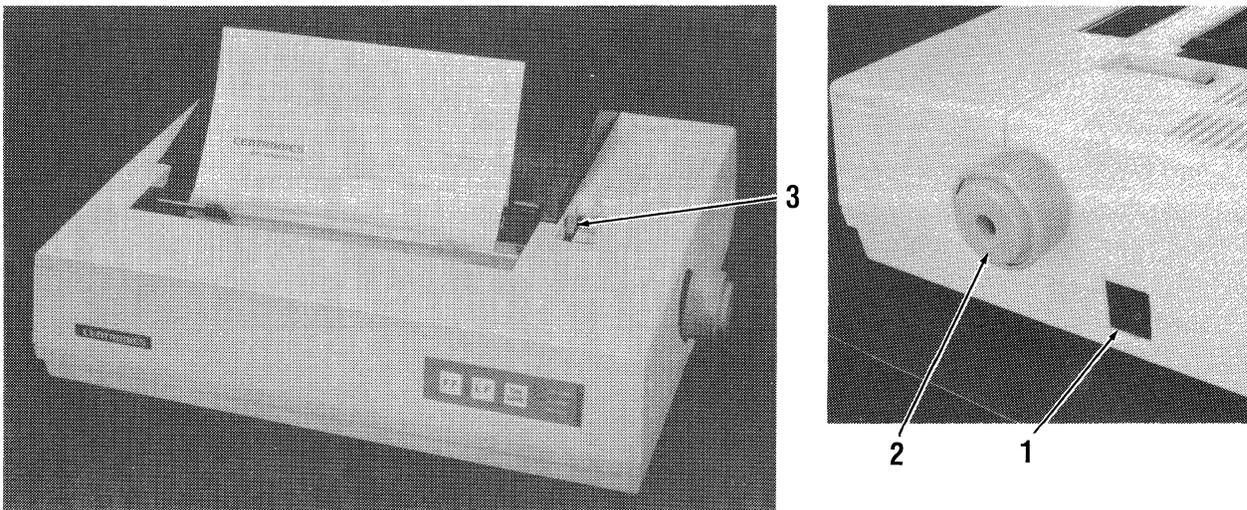
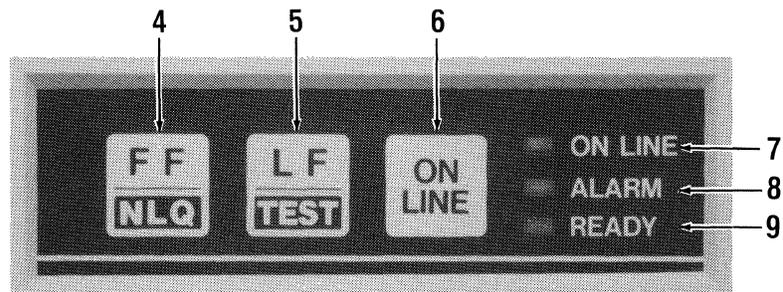

Figure 2-1A Main External Controls
Figure 2-1B Control Panel Switches and Indicators
3. Press the LF switch on the control panel (Figure 2-1B) and hold it in for a few seconds after the power switch is turned ON (Figure 2-1A).